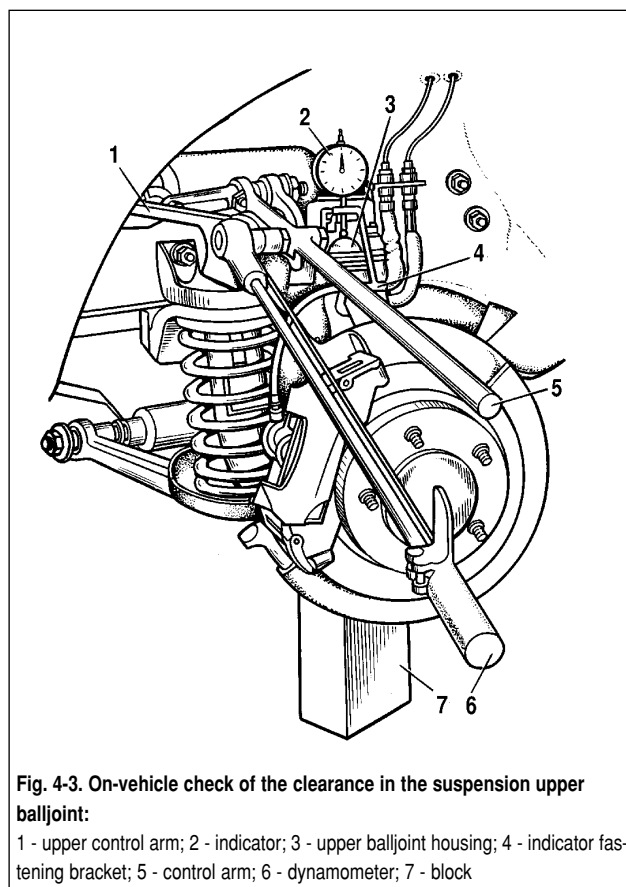

Fig. 4-3. On-vehicle check of the clearance in the suspension upper balljoint:
- fix tool indicator bracket 4 (fig. 4-3) on the top of stub axle;